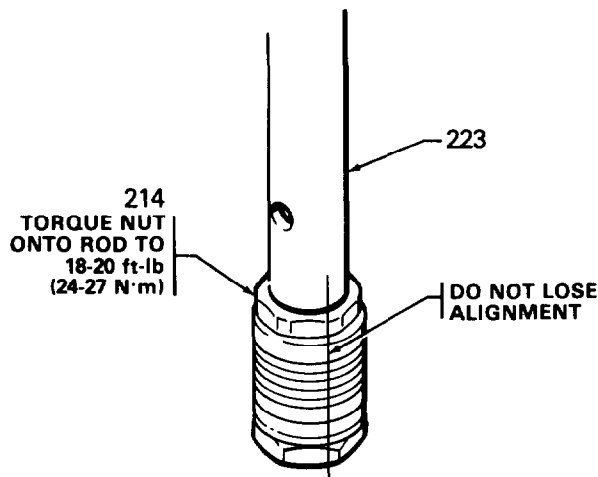

Fig 12
5. Place ball (203) on piston valve (224). Apply *one drop* of thread locking compound on threads of valve. Then hand tighten the valve assembly into the piston rod just until the nut meets the face of the rod. See Fig 12.